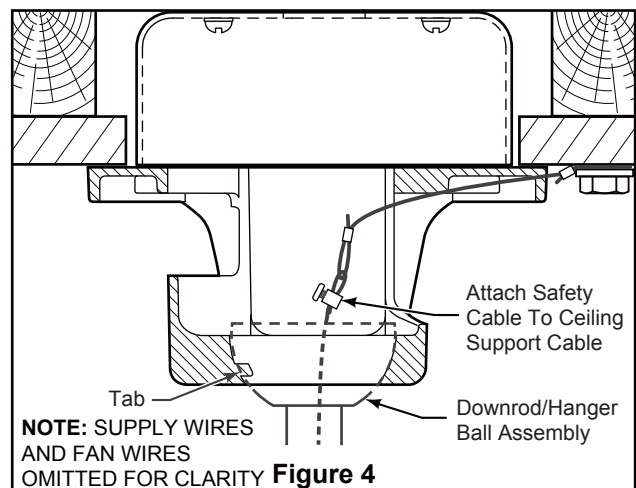

Figure 4
4. Slide downrod into the downrod support on top of the motor. Install the clevis pin by aligning the holes in the downrod support with holes in the downrod. Secure clevis pin with hairpin clip. Tighten the two set screws with nuts in the downrod support. (Figure 4)
- ☐ 4. Carefully lift the fan and seat the downrod/hanger ball assembly onto the hanger bracket that was just attached to the outlet box. Be sure the groove in the ball is lined up with tab on the hanger bracket. (Figure 4)
- ☐ 5. Attach the safety cable to ceiling support cable. Slide cable clamp and washer onto safety cable (from fan). Place the end of cable through the loop of ceiling support cable. Pull as much cable through loop as possible. Feed end of cable into clamp hole and firmly tighten screw. (Figure 4)
3. Connect green wires from hanger bracket and downrod to bare (ground) wire using wire connector. Connect black wire from receiver unit marked “AC IN L” to black supply wire using wire connector. Connect white wire from receiver unit marked “AC IN N” to white supply wire using wire connector. Connect white wire from receiver unit marked “TO MOTOR N” to white wire from fan using wire connector supplied with receiver unit. Connect black wire from receiver unit marked “TO MOTOR L” to black wire from fan using wire connector supplied with receiver unit. Lastly, connect blue wire from receiver unit to the blue fan light wire using wire connector supplied with receiver unit. (Figure 4)